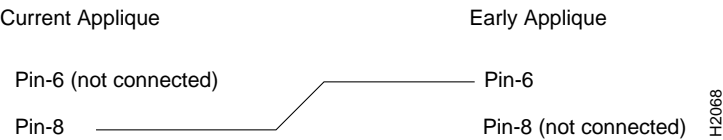

Figure 3 Cable Change Required When Using Older RS-232 Applique
Very early MCI cards were shipped with an RS-232 DTE applique assembly designed by a third-party vendor. These older appliques, marked *SCO-232*, do not have any LEDs. If you are using this RS-232 DTE applique assembly on the other side of a link, the applique has Carrier Detect (CD) on pin 6, which is contrary to current RS-232 specifications. When using this applique with an RS-232 DCE applique assembly, you must use a cable adapter or breakout box to change the cable as shown in Figure 3. All other signals on the 25-pin cable should be straight through.